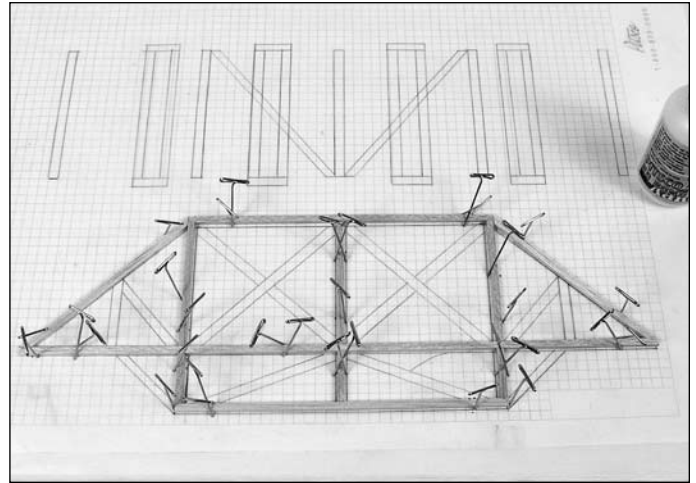

Figure 27 – Building the outline of the bridge side
4. Glue the pieces in place. Surfaces where strips connect should be coated with a thin film of glue. Use pins to hold the pieces flat (Figure 27).